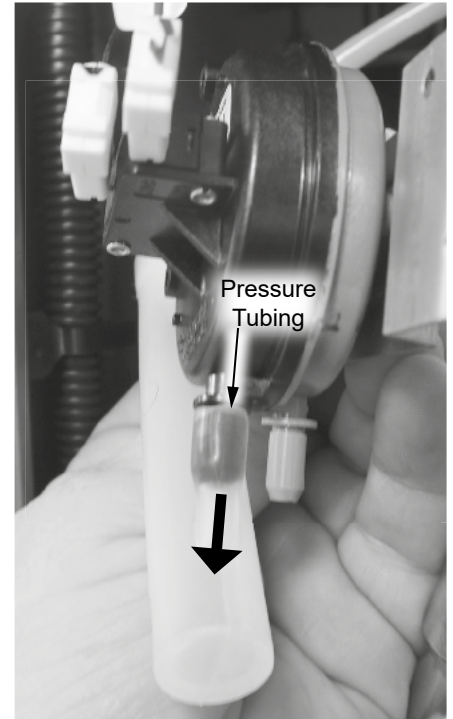

Figure 2 - Removing the pressure tube
NOTICE: Be careful not to damage the pressure tubing. See Figure 2.
- 14** Reconnect the black wire harness to the common (C) connector. Reconnect red wire harness to the normally closed (NC) connector. See Figure 2.